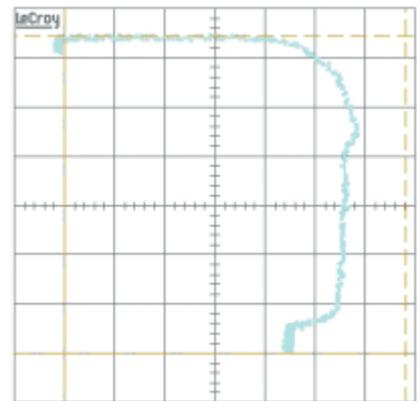

Figure 4: Collector current vs. collector emitter voltage (RBSOA)
i.e. the test conditions are characterized by hard switching with a low stray inductance, maximum permissible DC link voltage and twice the rated current (Fig. 4). This worst-case RBSOA curve is then checked against the specifications of the IGBT module manufacturer.